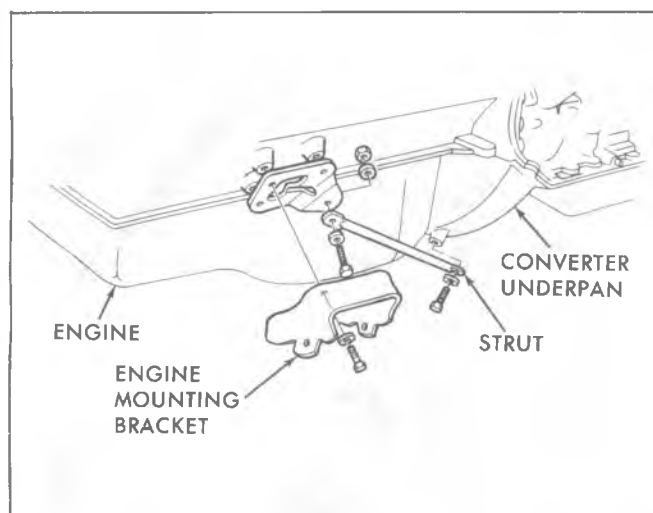

Fig. 7A-22—Transmission Support Strut Rod
3. Remove cover "O" ring seal, spring and 1-2 accumulator, as seen in Figure 7A-21.